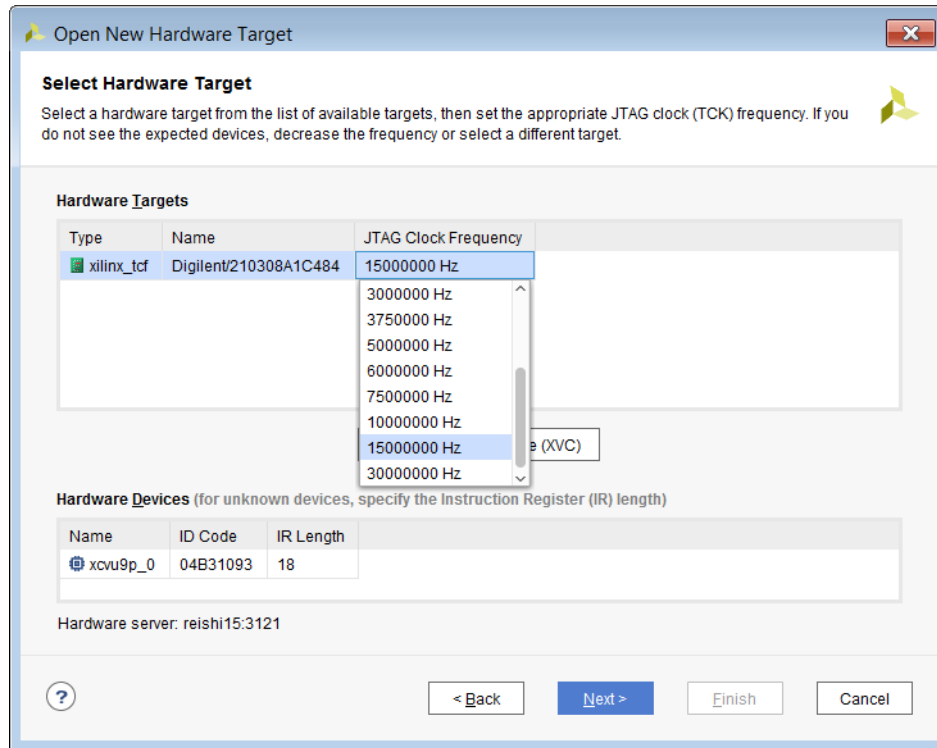

Figure 4-5: Selecting a Hardware Target
2. Select the appropriate hardware target from the list of targets that are managed by the hardware server. Note that when you select a target, you see the various hardware devices that are available on that hardware target (see Figure 4-5).
- If you are not able to correctly identify the hardware devices on your target, it might mean that your hardware is not capable of running at the default target frequency. You can adjust the frequency of the TCK pin of the hardware target or cable (see Figure 4-5). Note that each type of hardware target may have different properties. Refer to the documentation of each hardware target for more information about these properties.
- While the Vivado hardware server will attempt to automatically determine the instruction register (IR) length of all devices in the JTAG chain, in some rare circumstances it might not be able to correctly do so. You should check the IR length for each unknown device to make sure it is correct. If you need to specify the IR length,
you can do so directly in the **Hardware Devices** table of the **Open New Hardware Target** wizard (see Figure 4-5).